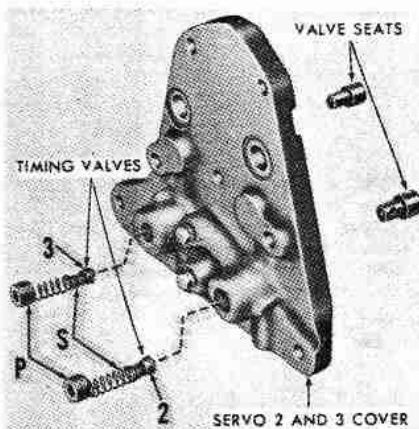

Fig. 263-Exploded view of Servo 2-3 cover assembly. Refer to Fig. 264 for cross-sectional view of timing valves (2 and 3) and valve seats in installed position.
261. **SERVO 2 AND 3 COVER, TIMING VALVES AND SERVOS 2 AND 3.** The servo cover and servos can be removed with transmission installed in tractor. The servo timing valves are located in the servo cover; refer to exploded view in Fig. 263. Refer to appropriate following paragraphs for removal, overhaul and re-installing procedure.
264. **SERVO TIMING VALVES.** The Servo 2 and 3 Cover assembly contains the Servo Timing Valves and Valve Seats; refer to exploded view in Fig. 263. To remove the timing valves, remove the socket head plugs (P) from outer side of cover, then remove the springs (S) and timing valve assemblies (2 and 3). Note that the Servo 3 timing valve is located to front of cover opposite the No. 2 Servo and the Servo 2 timing valve is located towards rear cover opposite No. 3 Servo.
valves in servo cover as shown in Fig. 263. Tighten the socket head retaining plugs securely after installing timing valve assemblies (V—Fig. 264), snap ring end first, and springs (S).